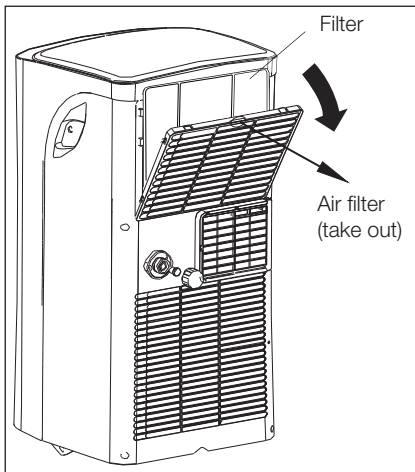

Fig.27
- This unit has a filter at the back of the unit. Grasp the upper panel tab and take off the filter which behind the grill of the back panel (Fig. 27).